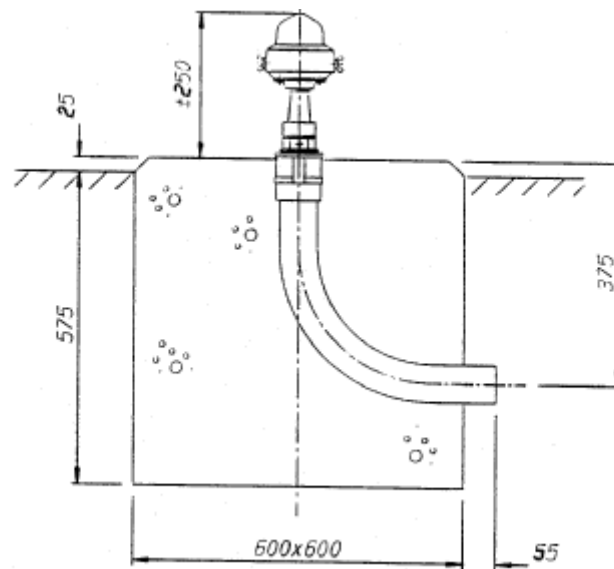

Fig. 10
5.6.1 With this installation method the RVE-3-045 is mounted on 2" - 11 TPI tapped sleeve on the top of the conduit elbow which is encased in a concrete block as shown on fig. 10.